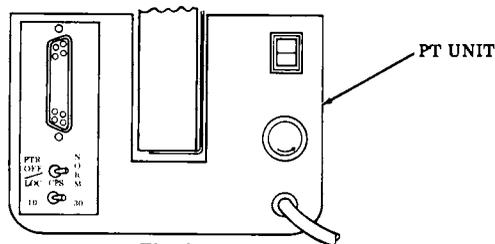

Fig. 6
3.13 ASR only — Position the PT unit PTR off local — normal switch to the normal position and position the CPS switch to the 30 position. See Fig. 6.